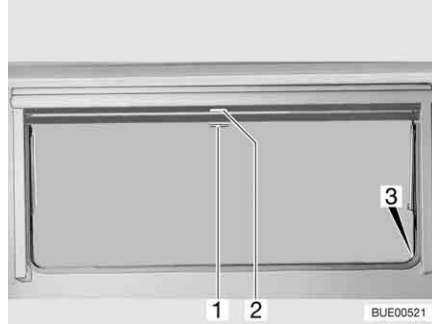

Fig. 106 Hinged window
- Pull blind at the handle (Fig. 106,2) downwards. If the blind is to be completely closed, it is suspended into the locking devices (Fig. 106,3) situated on both sides of the window frame.
- If the blind is completely closed: Press handle (Fig. 106,2) downwards and, at the same time, tilt it slightly inward. The blind can be taken out of the locking devices situated on both sides of the window frame.
- If the blind is in an intermediate position: Pull the handle (Fig. 106,2) slightly downwards until the locking device releases.
- Pull insect screen at the handle (Fig. 106,1) down and hang it into the locking devices (Fig. 106,3) situated on both sides of the window frame.
- Press handle (Fig. 106,1) downwards and, at the same time, tilt it slightly inward. The insect screen can be taken out of the locking devices situated on both sides of the window frame.